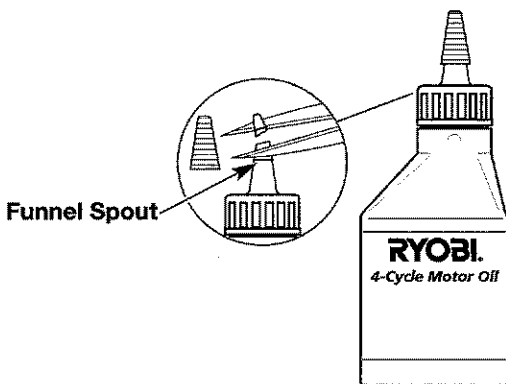

Fig. 17
Your unit is supplied with one 100 ml (3.4 oz.) bottle of SAE 30 SF, SG, SH oil (Fig. 17).
1. Unscrew the top of the bottle of oil and remove the paper seal covering the opening. Replace top. Cut the tip off the funnel spout (Fig. 17).